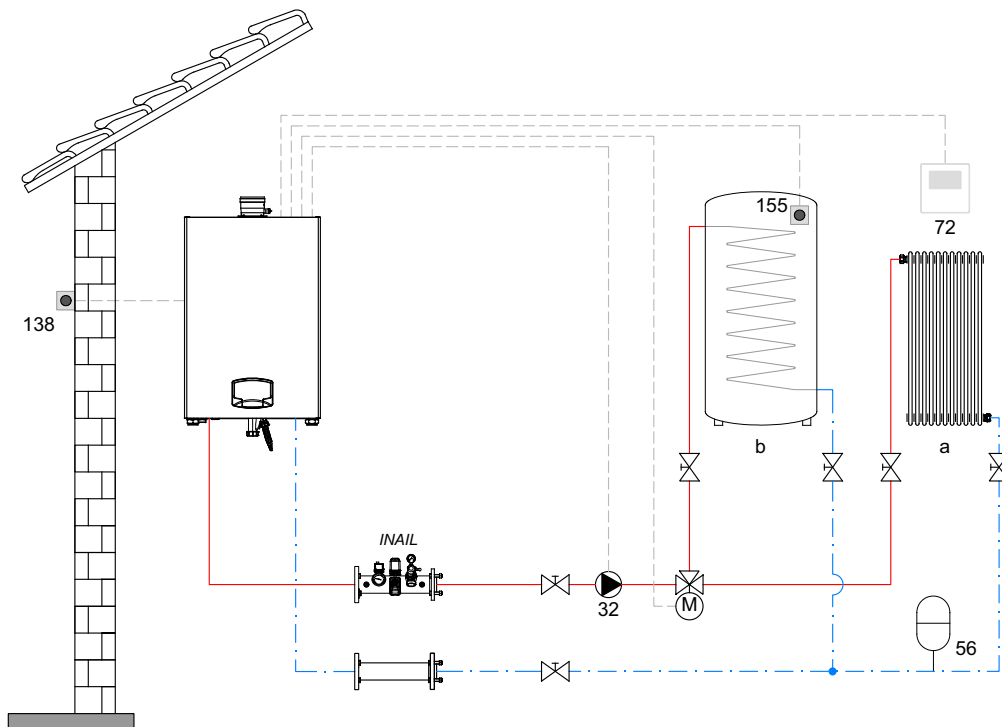
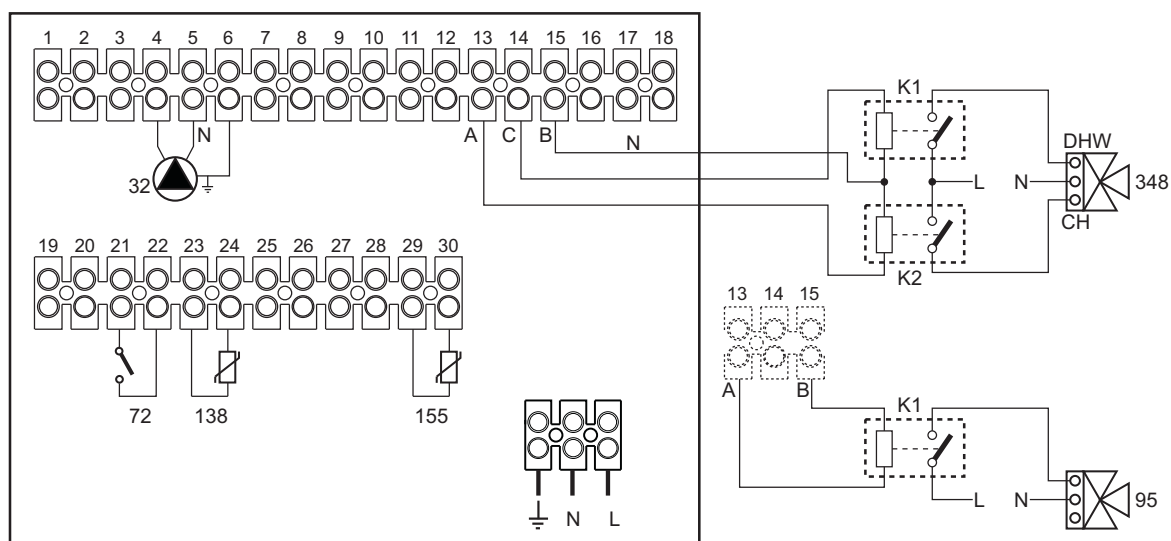

fig. 45
fig. 46
⚠ To avoid damaging the board, it is advisable to use external relays to control the 3-way valve, as indicated in fig. 46.
- Legend fig. 45 and fig. 46